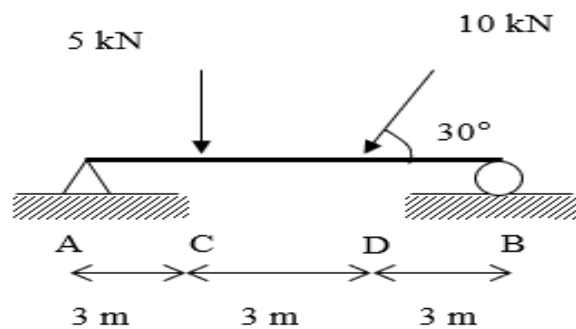

Figure 3(b)
- CLO2 (b) Figure 3(b) shows a 9 m long simply supported beam that is subjected to two point loads. Calculate the reaction force at support A and B.